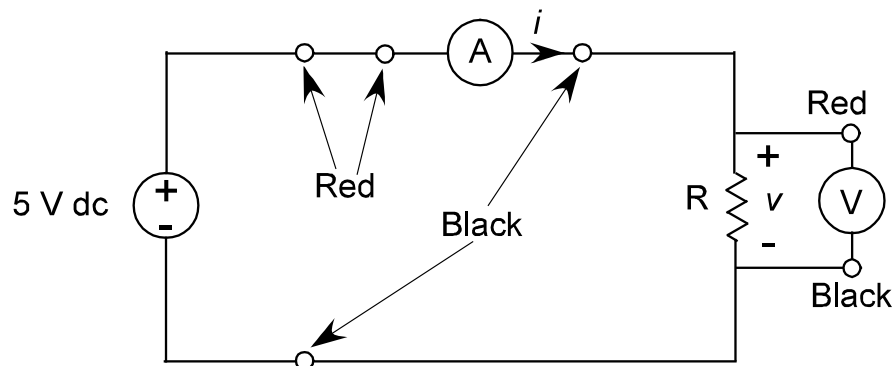

Figure 1-2: Circuit Diagram for $v - i$ Measurement
2.4 Measuring the resistance using voltage and current measurements: You will also measure the resistance of the five resistors from part 2.2 by applying a voltage and measuring the current using the circuit shown in Figure 1-2. Note that the voltmeter is in parallel with the resistor, while the ammeter is in series. Record this data in a table similar to Table 1-4.